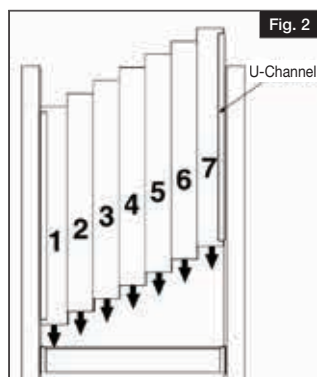

Fig. 2
- Place U-Channel centered vertically on edge of tongue and groove boards #1 and #7 (Fig. 2)